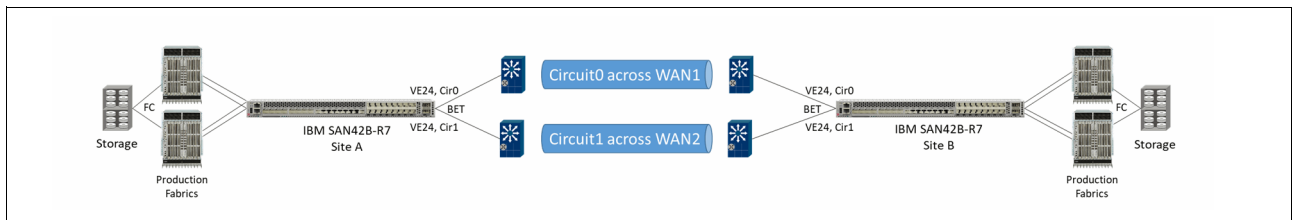

Figure 8-5 Poor practice: Two-box solution connecting both production fabrics - Not recommended
When using extension with FCR to connect production edge fabrics, do not connect both the A and B fabrics, as shown in Figure . Without FCR, both fabrics would merge into one big fabric destroying any notion of redundant autonomous fabrics. If FCR is used, the fabrics do not merge; however, both fabrics are attached to a common Linux platform. If maximum availability is a goal, this architecture is unacceptable, risky, and considered poor practice. A SAN with a common platform to A and B fabrics is susceptible to human, hardware, software, and environmental errors; each can bring down the entire SAN. See Figure 8-5.
- ▶ The most straightforward architecture is no FCR. An independent replication SAN is the most common implementation for distributed systems and mainframes and is the easiest to manage. Directly connecting storage replication ports to extension is highly reliable and easy to implement, manage, and troubleshoot. See Figure 8-5 above.